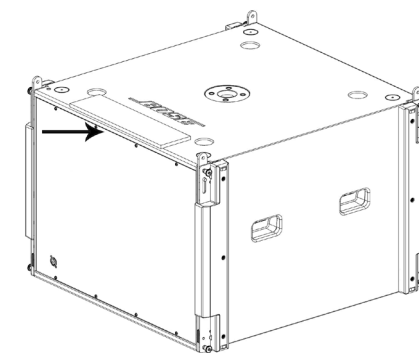

Fig. 7. Affix isolation pad to subwoofer
1. Align edge of pad with front edge of subwoofer. Affix isolation pad to top surface of subwoofer, adhesive side down. See Fig. 7.